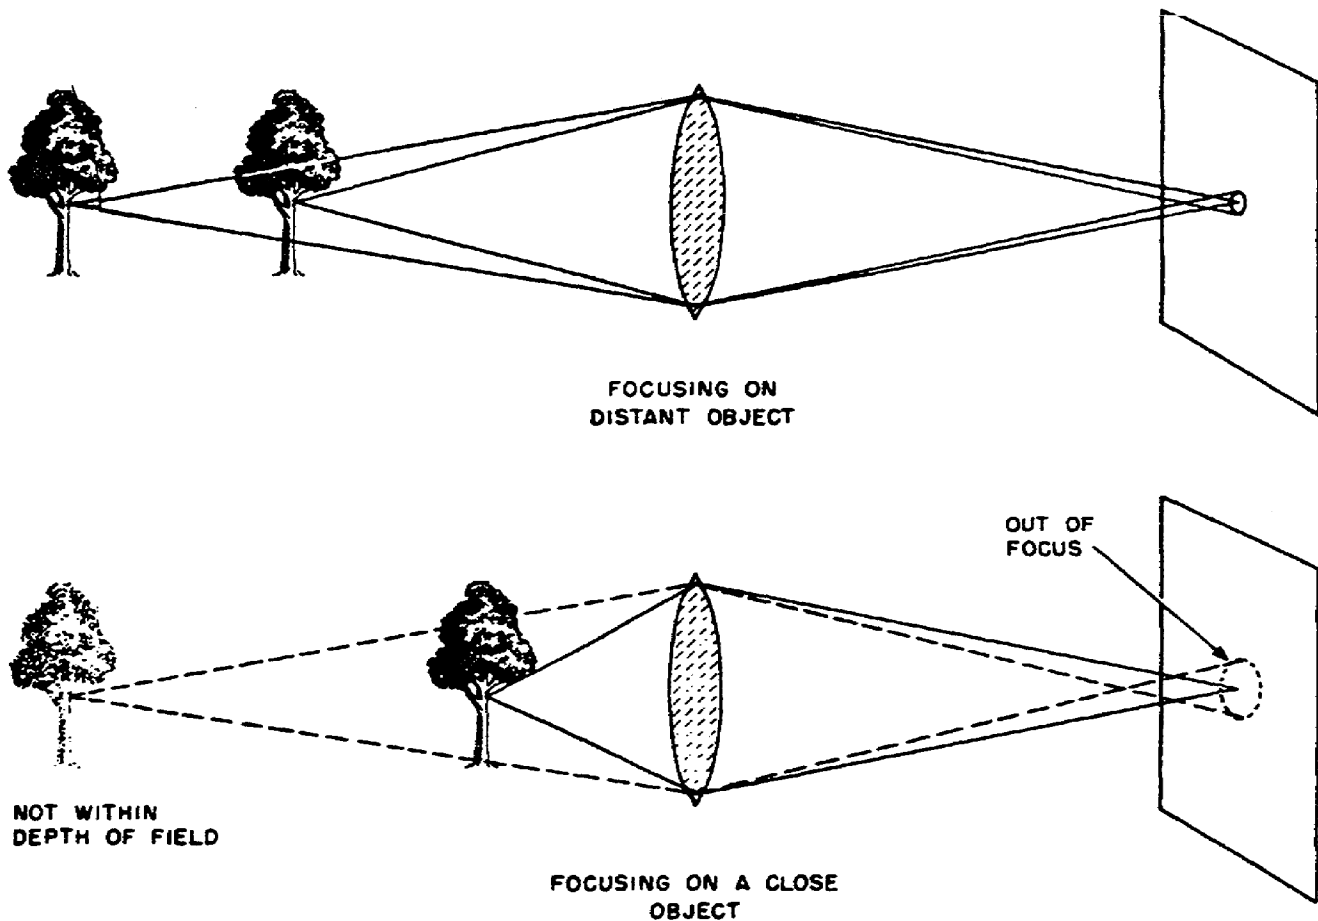

Figure 2-25. Effects of distance on depth of field.
d. If a lens is focused on a nearby object (short distance setting), the depth of field is also short. If the distance setting is increased (lens focused on a more distant object), the depth of field increases (fig 2-25). For this reason, it is important to focus more accurately for pictures of nearby objects than for pictures of distant objects.